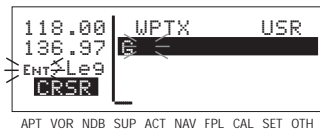

Figure 4-183
2. Select the desired character, if any, and move the cursor to the next character on the line (figure 4-183).